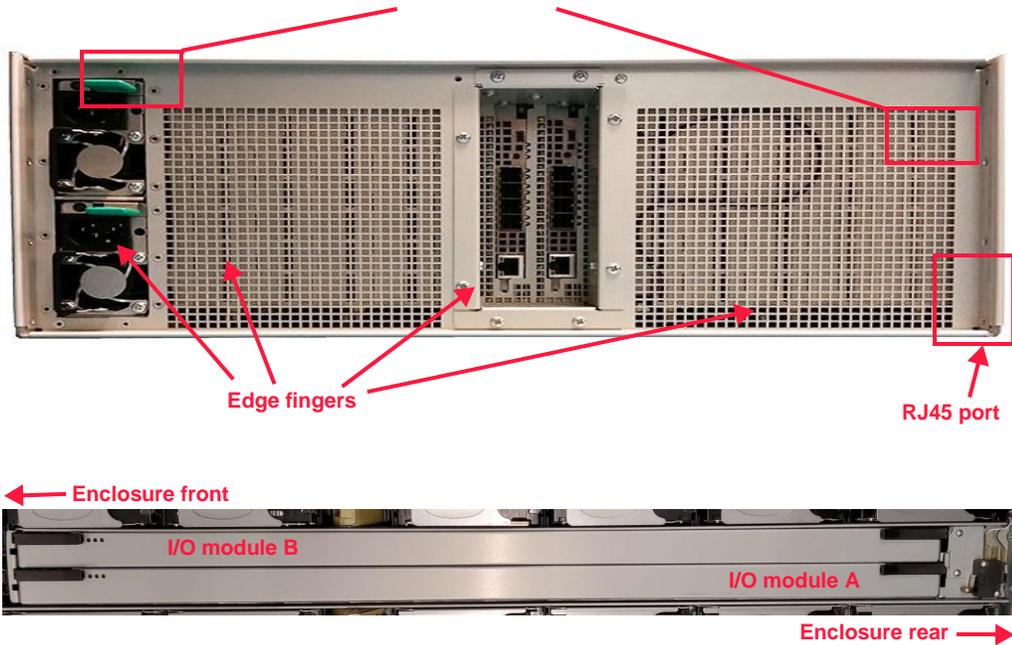

Figure 6.16 IOM correct orientation
2. Identify the connectors on the bottom of the IOM and inside the I/O option slot(s) in the enclosure. The edge fingers on the IOM must properly mate with the connectors in the I/O option slot. The RJ45 port should be at the bottom and the release tabs should be at the top (see Figure 6.16).